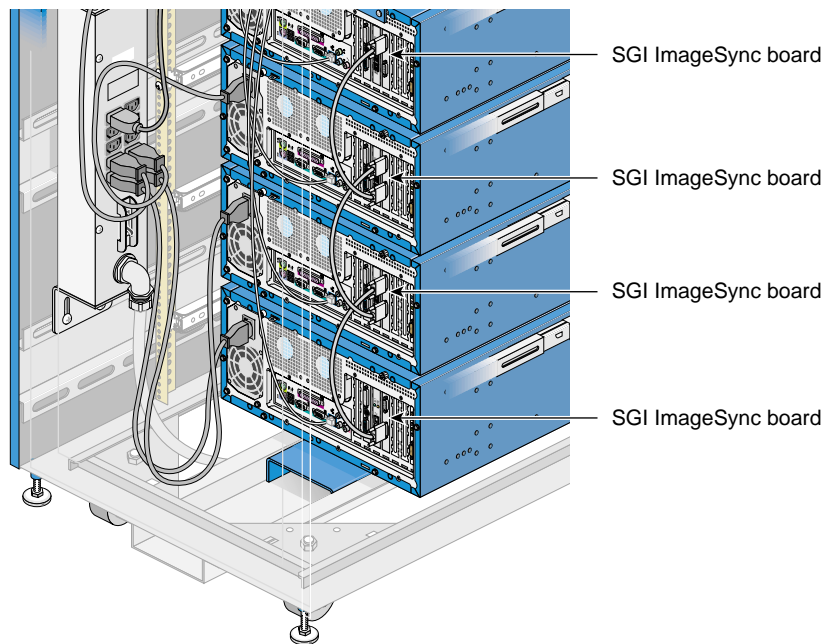

Figure 4-19 Connecting SGI ImageSync External Cabling, SGI Graphics Cluster Series 12 System
4. Attach the node's daisy-chain (external) SGI ImageSync cable to the adjacent node. See Figure 4-19.